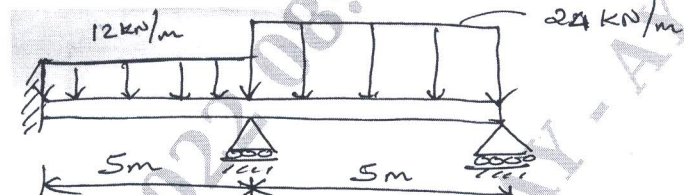

Fig.Q5(b)
b. For a beam shown in Fig.Q5(b). Determine the deflections at mid span given  $E = 2 \times 10^5 \text{ mm}^2$  and  $I = 5 \times 10^6 \text{ mm}^2$ .